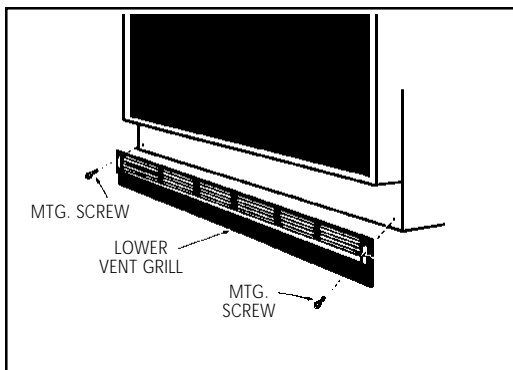

Figure 7
1. Line up the 2 mounting holes on the grill with the lower mounting holes on each side of the oven frame, below the oven door. (see figure 7)